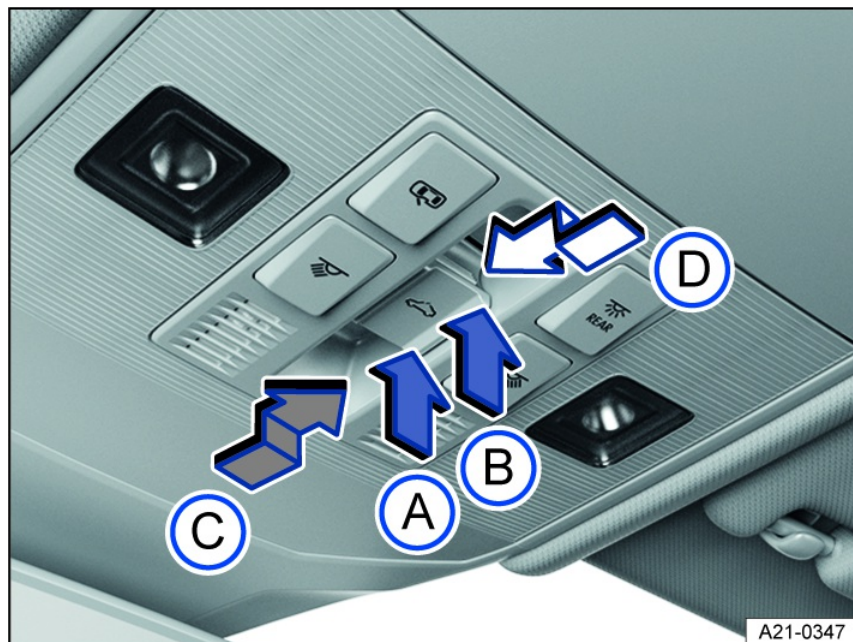

Fig. 63 In the headliner: sunroof button.
- Manual process: press the fig. 63 button until the first level is reached.
- Automatic process: press the fig. 63 button until the second level is reached.
- Automatic process up to comfort position: press the fig. 63 button until the second level is reached.
1. Press the fig. 63 or fig. 63 button again.